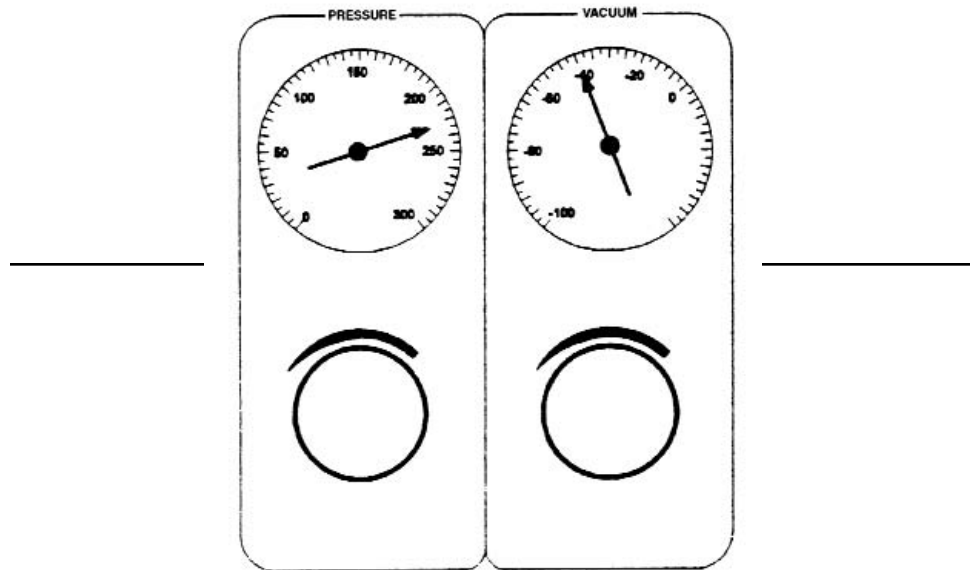

Figure 8 Pressure and Vacuum Gauges
- 1 Turn regulator knob (located below the Pressure Gauge) (**Figure 8**) *clockwise* to *increase* eject pressure.
- 1 Turn regulator knob (located below the Vacuum Gauge) (**Figure 8**) *clockwise* to *increase* vacuum.